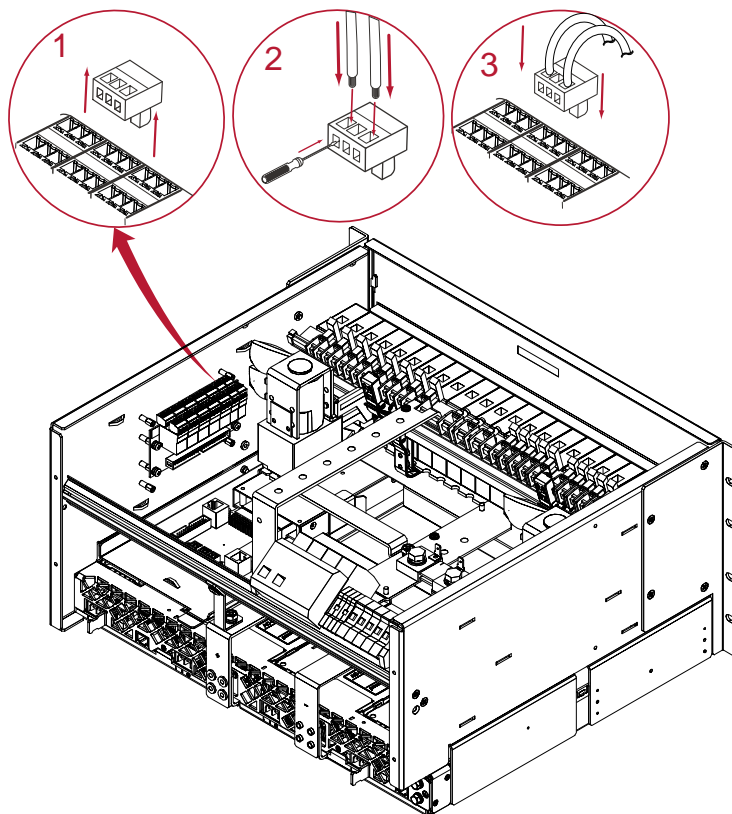

Figure 4-22 Alarm Interface
Alarm connections are positioned on the right side of the PBDU on the Alarm interface board, see Figure 4-22. To connect the alarm cable to the alarm interface board, follow the steps below:
1. Remove the green plug from each connector (Figure 4-22, #1)
4. Insert wire into the openings of green plug and tighten screw to clamp wire (Figure 4-22, #2).
5. Re-insert the green plug with alarm cable into the alarm interface board (Figure 4-22, #3).